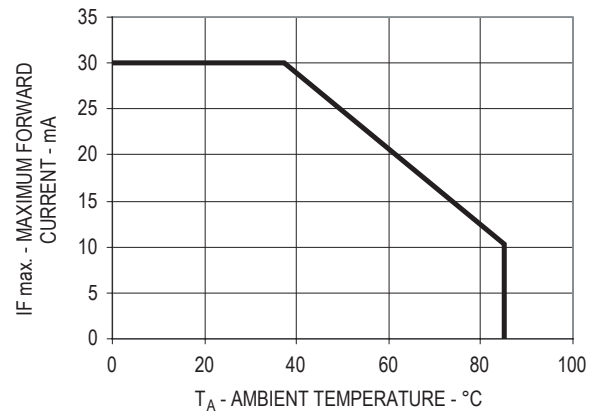

Figure 2. Forward current vs Ambient Temperature
- Derate linearly as shown in Figure 2